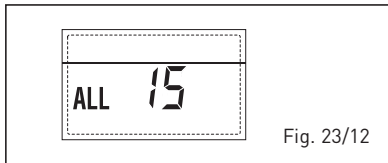

Fig. 23/12
- **EXTERNAL PROBE ANOMALY “ FLASHING” (fig. 23/13)**